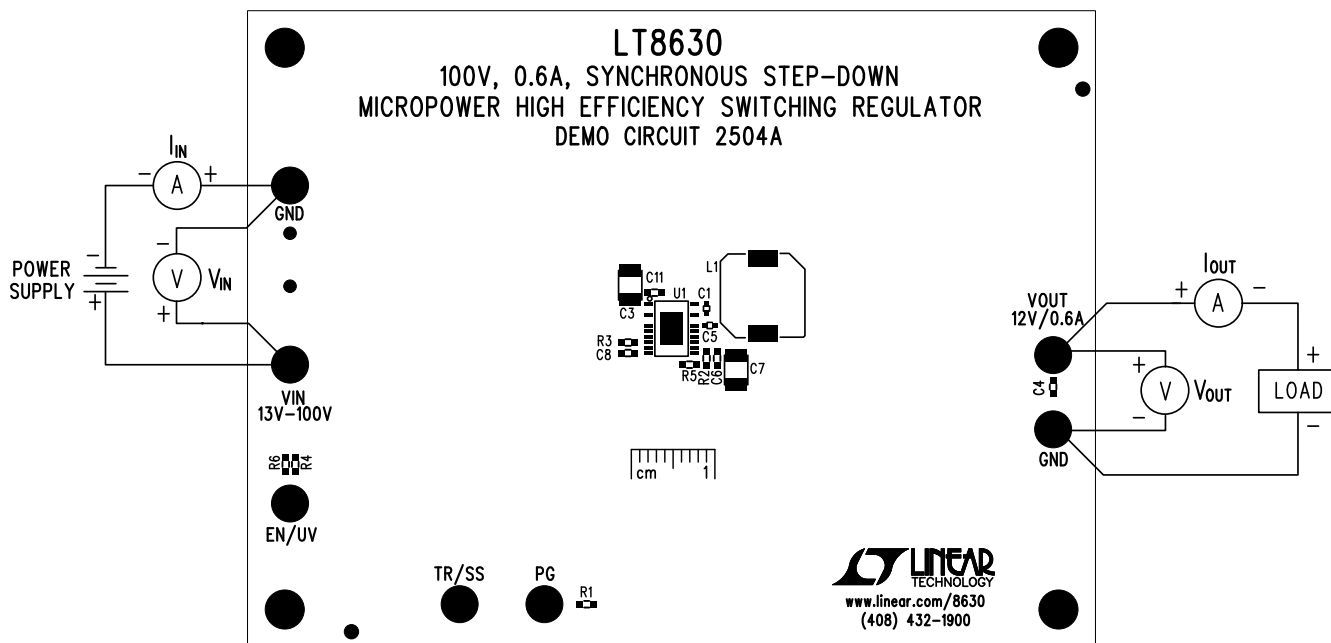

Figure 5. Proper Measurement Equipment Setup
Demonstration circuit 2504A is easy to set up to evaluate the performance of the LT8630. Refer to Figure 5 for proper measurement equipment setup and follow the procedure below.
**Note.** When measuring the input or output voltage ripple, care must be taken to avoid a long ground lead on the oscilloscope probe. Measure the input or output voltage ripple by touching the probe tip directly across the  $V_{IN}$  or  $V_{OUT}$  and GND terminals. See Figure 5 for the proper scope technique.